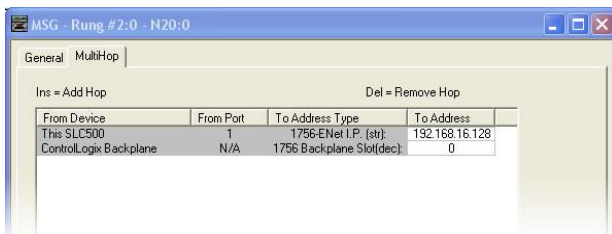

Figure 55: MSG Configuration, "MultiHop" Tab
- e) Under the "MultiHop" tab settings, set the "To Address" in the first row to the inverter's IP address, and the "To Address" in the second row to 0. Refer to Figure 55.